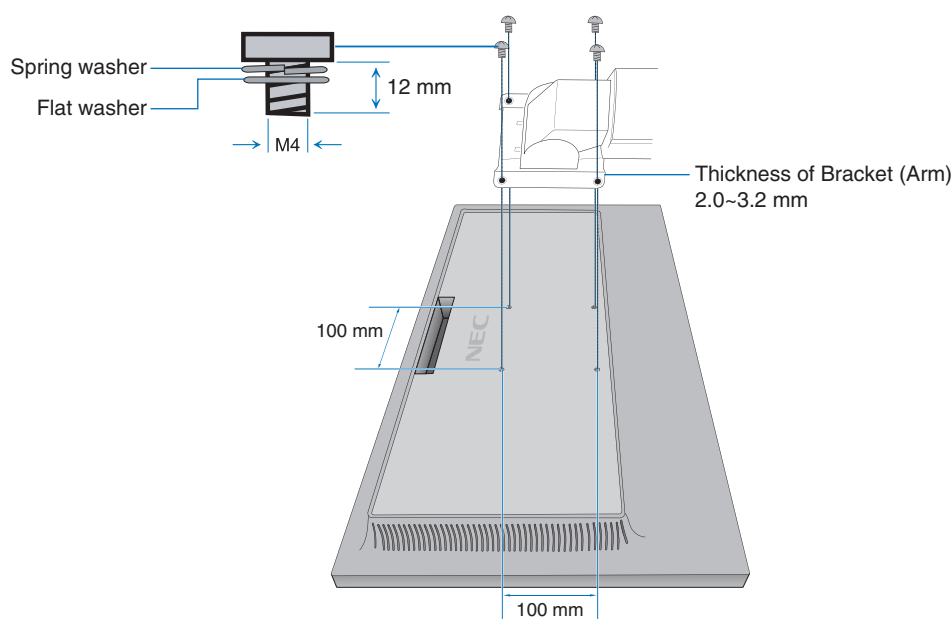

Figure F.1
- Using 4 screws that meet the specifications listed below, attach the arm to the monitor (**Figure F.1**).
- Only use the screws (4 pcs) that were removed from the stand or the specified screws (**Figure F.1**) to avoid damage to the monitor or stand.